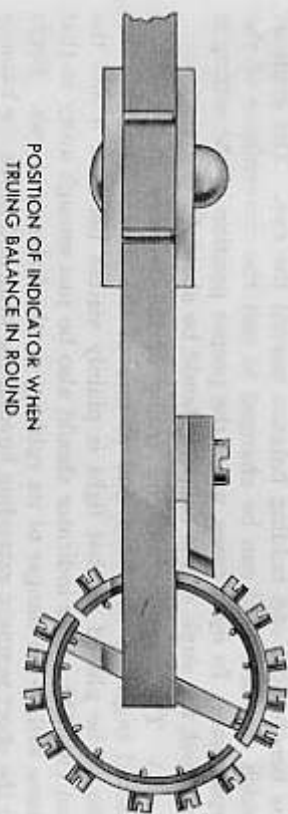

Figure 31 — Method of Holding Calipers for Truing Balance in Round
(3) The examination and truing of the balance in the round should begin at the fixed end of one of the rims. The indicator should be placed so that light is plainly visible between it and the rim (fig. 31). The indicator should also be just enough away so that there will be no danger of its rubbing on the balance screws. Begin at the short segment extending beyond the arm, and move the balance slowly, so the free or cut end will advance toward the indicator. If the light is not exactly the same at all points, turn the balance so rim to be bent is away from indicator. Place bending wrench on the rim at the point where the first indication of change in light was noticed. After making the bend, examine with the indicator from the very beginning of the rim, continuing until the rim is trued. Never overlook the importance of setting the indicator. Begin the examination at the end of the rim attached to the arm each time a bend is made. In making a bend in the round, place wrench slightly nearer the arm than the exact point where the bend begins. This is contrary to truing in the flat for, in the flat, the tweezers or fingers are placed just beyond where the bend begins.
(4) When one rim has been trued, proceed to the next and use the same methods as with the first rim. In making bends, hold wrench level so that throwing the flat out of true will be avoided as much as possible. In case the bends in truing the round are made with an upward or downward twist, it will require extra bending to get the flat true again. Each time the flat is trued again, it will be necessary to check the round. This is called "touching up" and final results can be reached after about the second touching up. For final examination, loosen calipers and allow balance to spin slowly. Train eye to observe the rim only and not the screws.